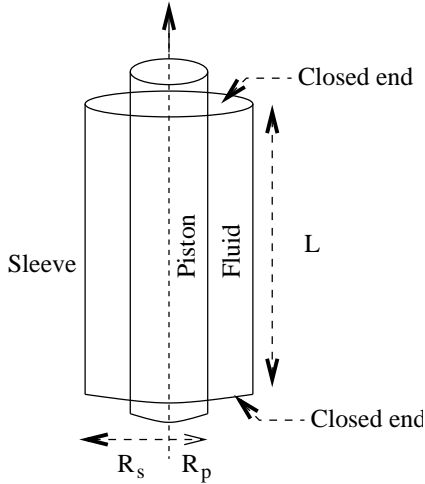

Figure 8: Piston-damper assembly.
6. A piston damper assembly, shown in figure 8, consists of a cylindrical piston rod moving through a stationary cylindrical sleeve which is filled with fluid. The sleeve is closed at both ends so that the fluid cannot move in or out of the sleeve. The radius of the piston rod is  $R_p$ , while the outer radius of the sleeve is  $R_s$ . The length of the sleeve  $L$  is large compared to the radius  $R_s$ . The piston rod moves with a velocity  $U$  with respect to the sleeve. Consider the region away from the ends of the sleeve, where the flow is expected to be in only one direction (parallel to the walls).